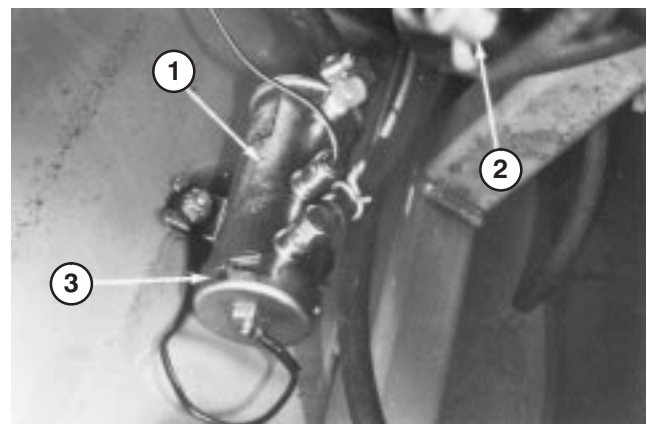
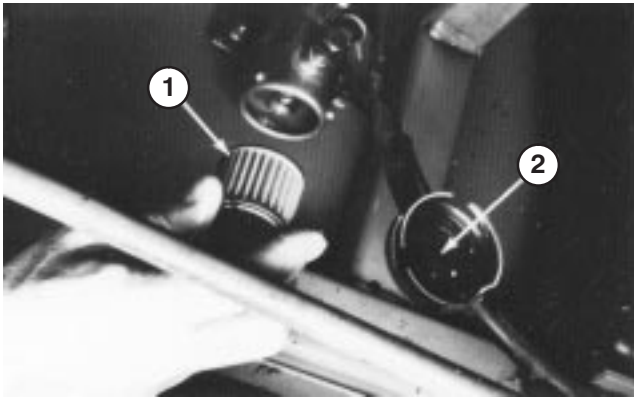

Figure 44
Figure 45
- 1. Fuel pump is located on inner frame bulkhead to left of drive coupling assembly (Fig. 44).
- 3. Place a drain pan under fuel pump and remove cover from fuel pump with 17 mm wrench (Fig. 44). Take care not to damage wire while removing cover.
- 4. Pull filter out of pump body (Fig. 45).
6. Clean magnet of any residue (Fig. 45), insert filter into body, and install cover (Fig. 44).